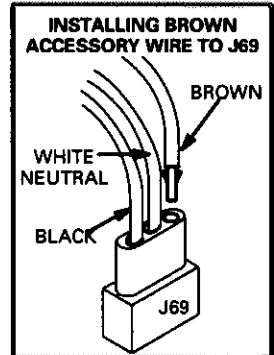

FIGURE 16
- 4 - An optional 120 volt accessory wire is provided with G23 units. Install brown accessory wire into J69 jack plug by inserting the pin of the brown wire into the open socket of the jack. See figure 16.